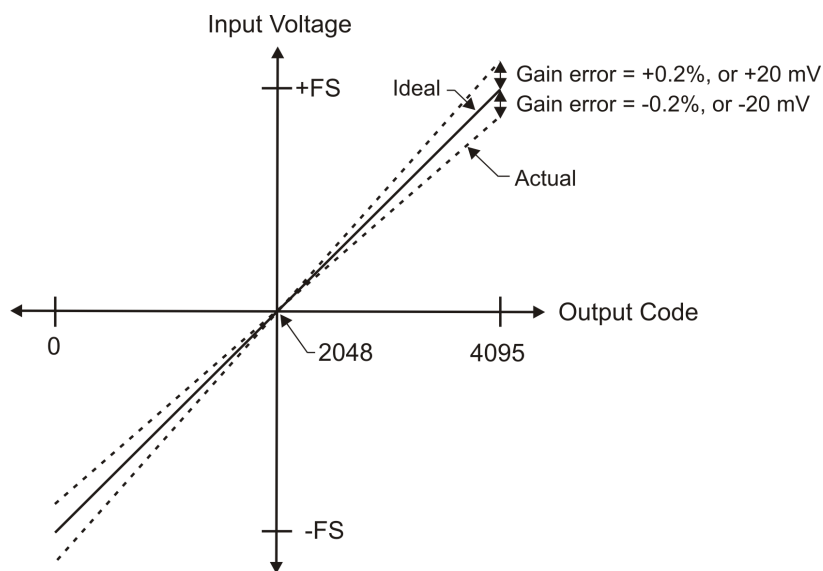

Figure 11. ADC Transfer function with gain error
Gain error is a change in the slope of the transfer function from the ideal, and is typically expressed as a percentage of full-scale. Figure 11 shows the USB-1208LS transfer function with gain error. Gain error is easily converted to voltage by multiplying the full-scale (FS) input by the error.
The accuracy plots in Figure 11 are drawn for clarity and are not drawn to scale.